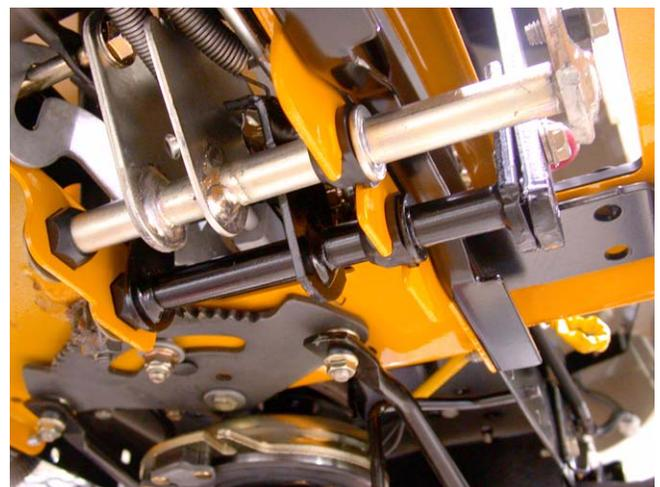

Figure 20.7
20.7. Clean any corrosion or dirt from the surfaces where the pedal shaft contacts the bushing, and slip the new bushings into place. See Figure 20.7.